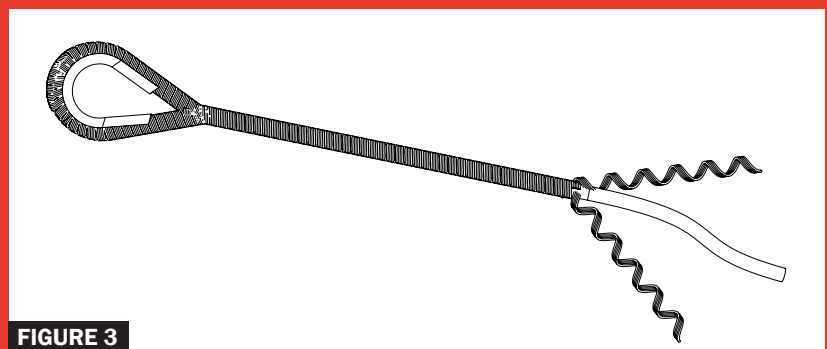

FIGURE 3
- Complete the installation by wrapping both legs simultaneously (keeping legs opposite each other) or alternating legs half a wrap at a time (figure 3).